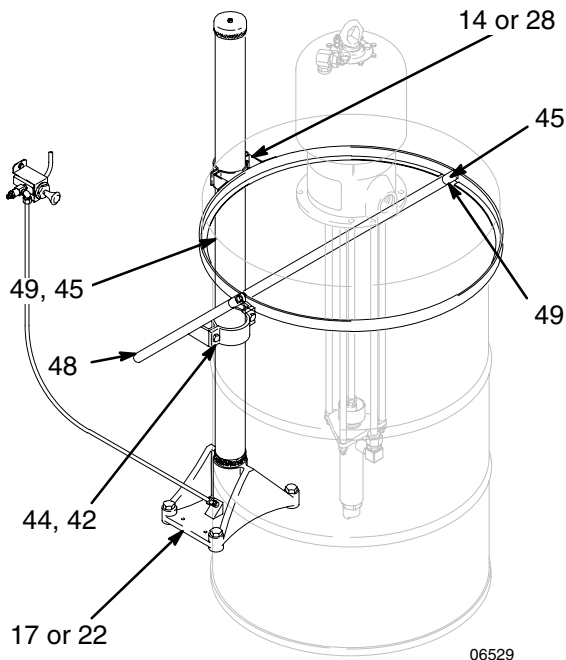

Fig. 4
Place the cover in its proper position in the support ring (49) and tighten the capscrews (45). Set an open drum against the elevator base (17 or 22) and put the cover on the drum so the support clamp (44) recesses are tight against the elevator riser tube (14 or 28). Raise the tube 0.25 in. (6.4 mm), then tighten the clamp screws (42). See Fig. 4.